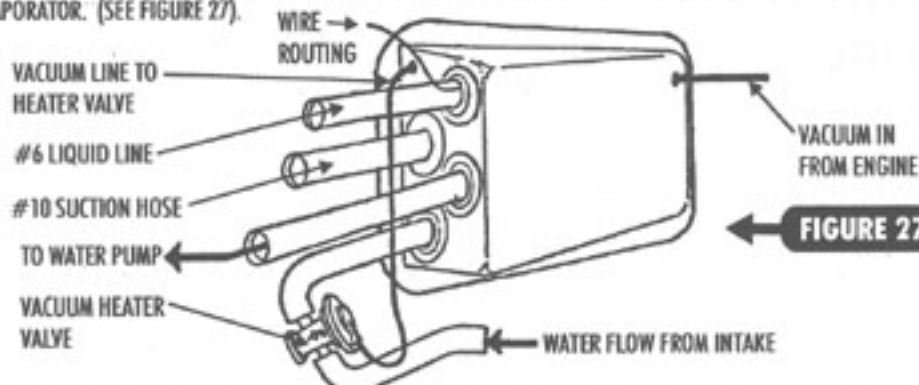

FIGURE 27
- ROUTE THE #6 AND #10 A/C HOSES AND HEATER HOSES THROUGH THE FIREWALL COVER, BEFORE ATTACHING HOSES TO THE EVAPORATOR. (SEE FIGURE 27).